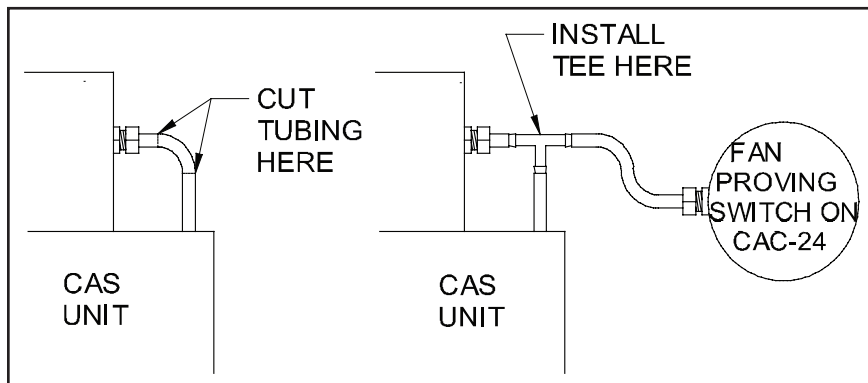

Figure 2
2. Cut the exposed tubing on the CAS-4 as shown in Figure 2. Install the provided plastic Tee and connect the tubing from the CAC-24 to the Tee.